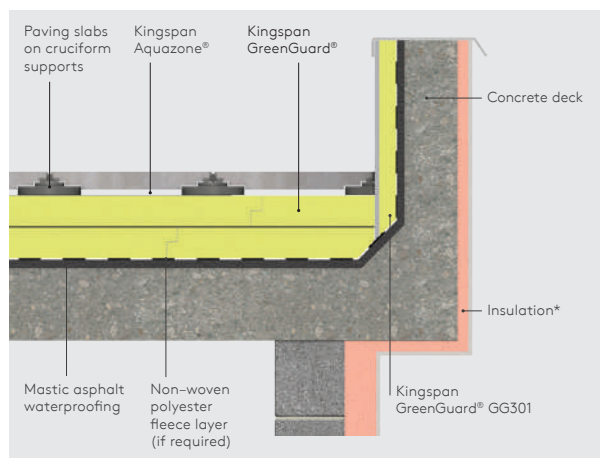

Figure 7 - Eave / gutter detail
- Where a parapet construction is not used, to achieve best performance, the roof insulation should overlap the wall to extend the thermal bridge path, if necessary by adding thermal insulation to edge beams to achieve continuity with external insulation (see Figure 7).